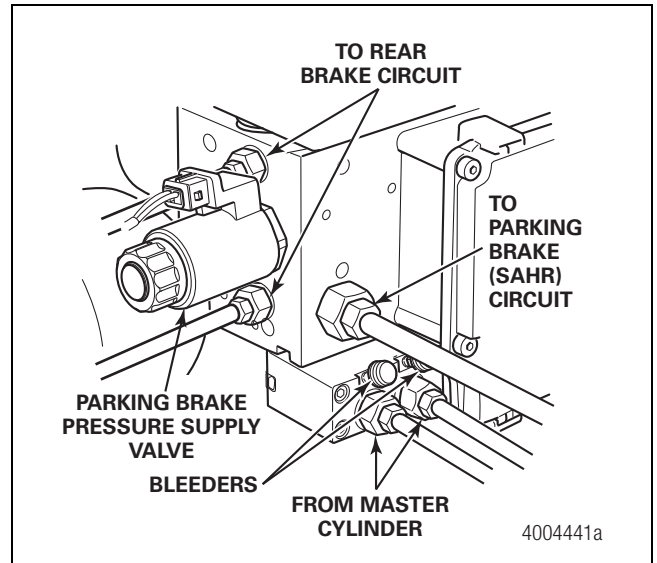
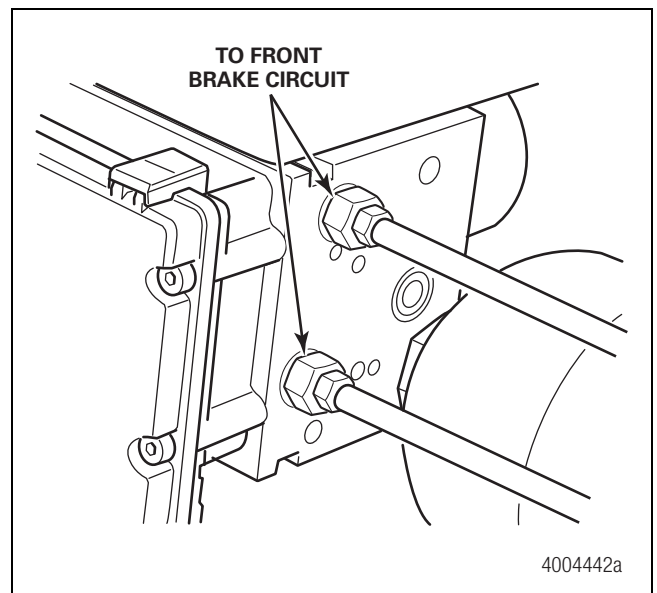

Figure 4.6
Figure 4.7
4. Connect the brake lines. Remove the protective cover before attaching the line. Check the line markers to ensure correct installation on the HCU. Figure 4.6 and Figure 4.7.